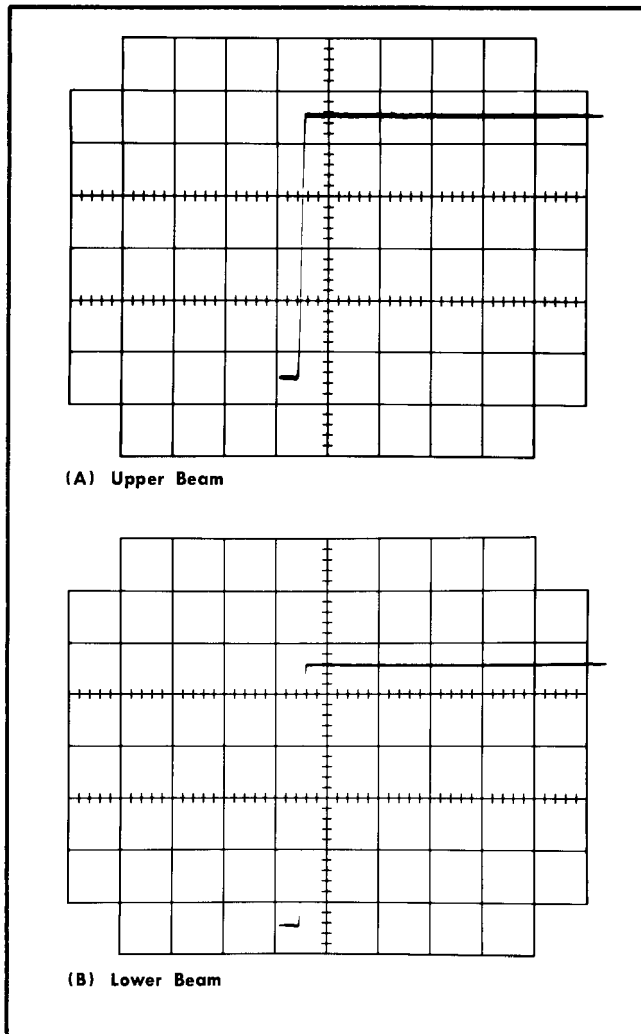

Fig. 5-12. Typical displays, high frequency compensations correctly adjusted.
- ab. Check—Upper Beam CRT display for optimum square corner and flat top, with peak overshoot, rolloff, or ringing  $\leq 2.25\%$  of 50 mm or  $\leq 1.125$  mm. See Fig. 5-12 for a typical display.